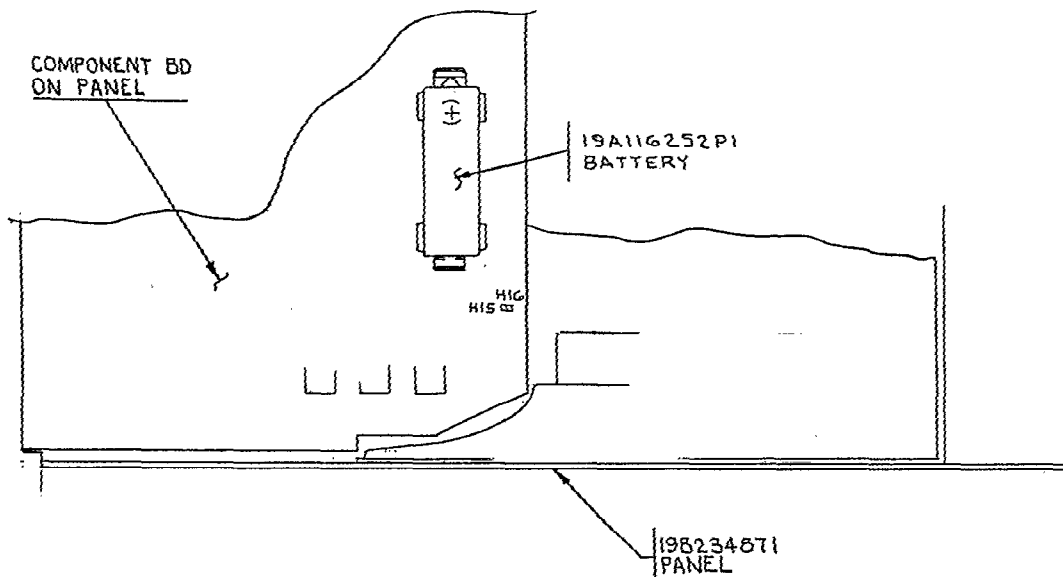

FIG. 2
- ② INSTALL BATTERY, 19A116252P1, ONTO COMPONENT BD. ON PANEL, 198234871, AS SHOWN IN FIG. 2 REMOVE JUMPER H15-H16.